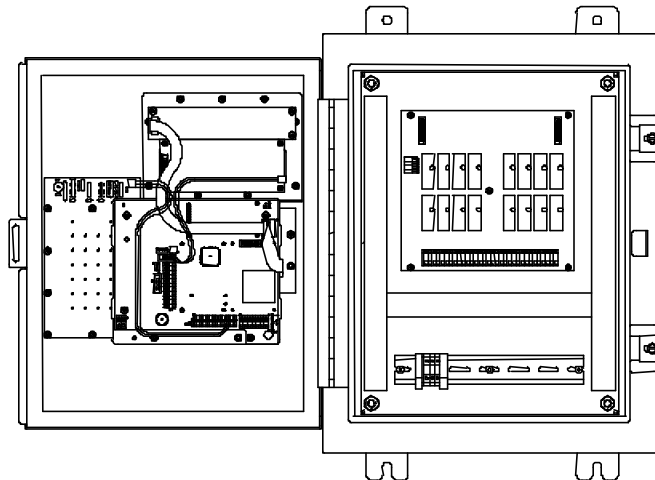

Figure 2-12: 663 Internal View
5. Locate the main board near the middle right of the controller door interior (see Figure 2-12).